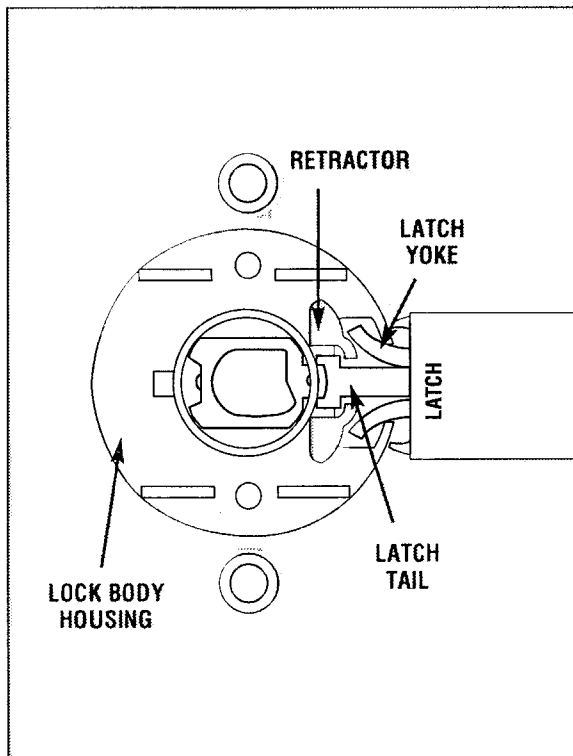

FIG. 6 VIEW FROM INSIDE OF DOOR:
Latch will not fully retract.	Lock is not properly engaged with latch or mis-aligned. Lock is not centered on door. (See page 6, Fig.6)
- See Page 6, Fig. 6 "View from inside of door" diagram.**